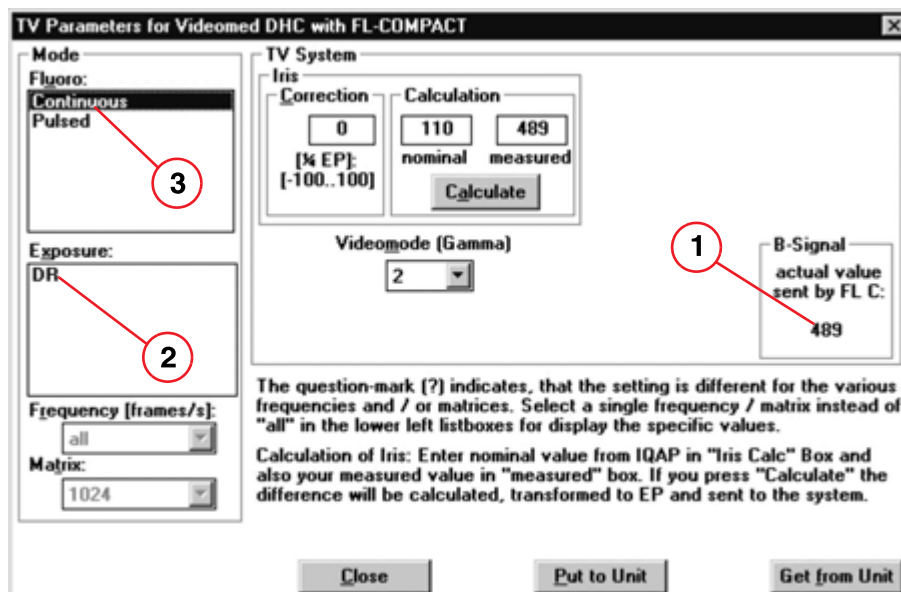

Fig. 26:
- The following window appears (Fig. 26 / p. 40).
- Select **Continuous** under **Mode > Fluoro**: (3/ Fig. 26 / p. 40).
Do not change the iris value under **TV System > Iris > Correction** (Fig. 26 / p. 40).
- Check if the **B-Signal actual value sent by FL C:** value is **110 ± 10%** (1/Fig. 26 / p. 40).
- Select **Pulsed** under **Mode > Fluoro:** (3/Fig. 26 / p. 40).
- In case of deviation, adjust the TV iris correction value automatically by pressing the **Calculate** button (Fig. 26 / p. 40).
- Select **DR** under **Mode > Exposure:** (2/Fig. 26 / p. 40).
- Exit the **TV Parameters for Videomed DHC with FL-COMPACT** window by pressing **Close** (Fig. 26 / p. 40).